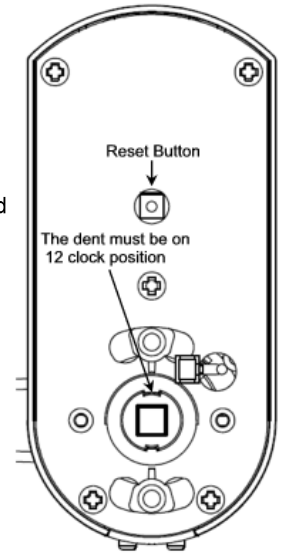

fig. 1
1.1 The dent should be on 12-clock position (see fig. 1), if not, rotate Square Spindle to let the dent be on 12-clock position.